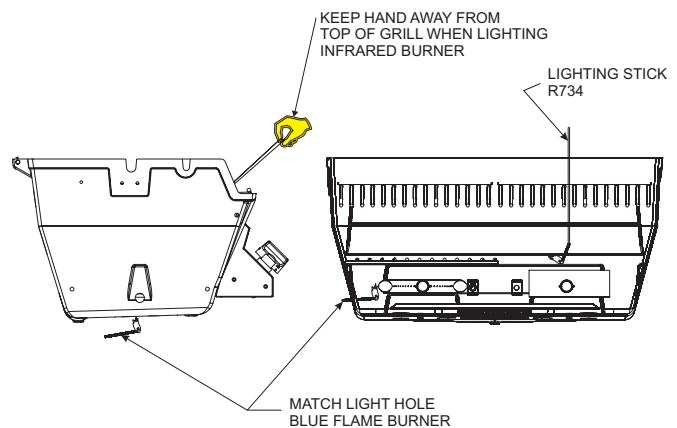

Figure 38
4. For Blue Flame grills, insert a burning long wooden match through the lighter hole on the left side of the grill. For Infrared grills, insert the lighting stick with a long wooden match attached through the cooking grid to ignite the infrared burner from the top. **See Figure 38.**